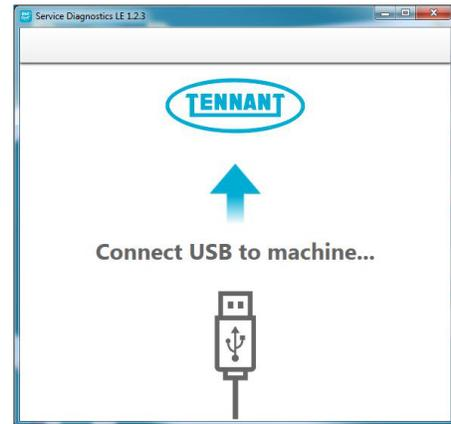

Fig. 21
2. After start up, the following screen will appear (Figure 21).